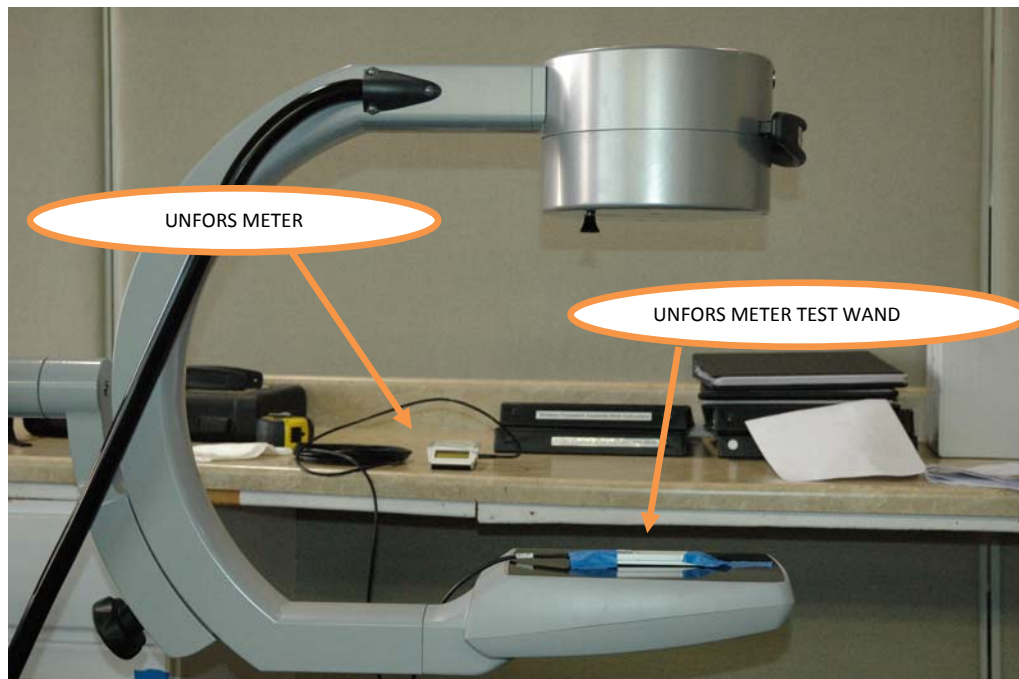

Figure 3.3
- Center the wand into position on the image intensifier or flat detector as appropriate. Refer to figure 3.3 for the set up of flat detector-based (FD) systems.